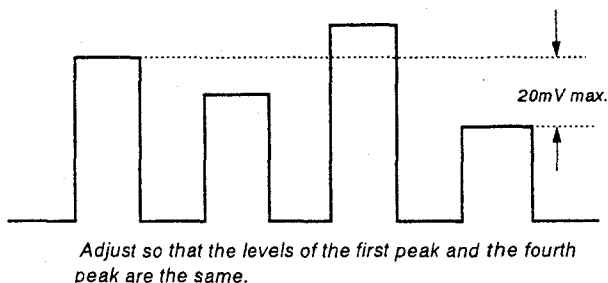

Fig. 12
5. Using SUB CHROMA NORMAL, adjust so that the tops of the waveform line up as in the diagram below. (Fig. 12)
2. Input an adjustment value of 98 for SUB CHROMA NORMAL. (Fig. 12)